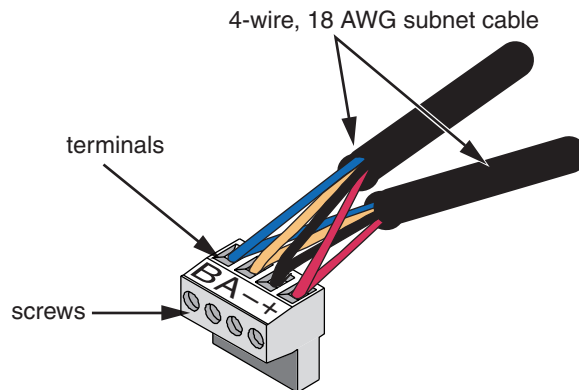

Figure 4: Subnet connector wire installation
3. Using the 4-wire, 18 AWG subnet cable (General Cable 236100, Belden 27326, or equivalent), insert one of the four colored wires into terminal B of a subnet connector plug (see Figure 4).
4. If connecting to another slave panelboard, insert the same colored wire from the next 4-wire, 18 AWG subnet cable into terminal B (see Figure 4).
- Using the same process above, secure the wires into the remaining terminals A, -, and + (see Figure 4).